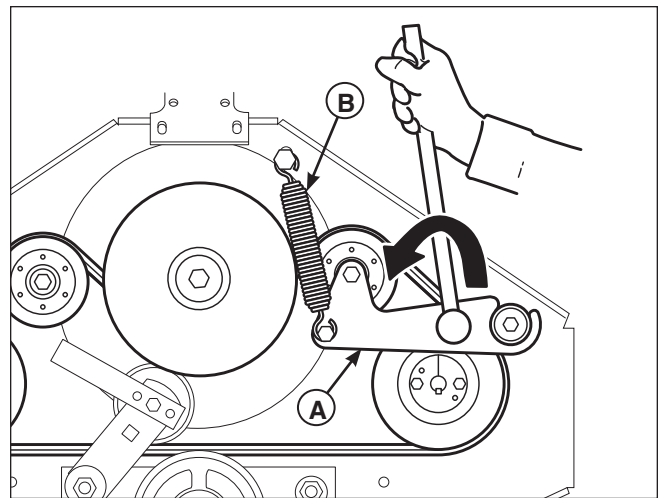

Figure 48. Pump Belt Removal & Replacement
5. Slide the drive belt over the edge of the stationary idler pulley (C) and carefully release the tension on the wrench until the spring tension is completely released.
8. **61" Side Discharge:** Rotate the spring-loaded idler pulley (A, Figure 45) COUNTER-CLOCKWISE and slide the drive belt over the edge of the stationary idler pulley (C). Make sure the V-side of the belt runs in the pulley grooves (Figure 48). Carefully release the tension on the wrench.
4. Remove the 5/16" bolt, washer and nut (C, Figure 48) that fasten the rubber pad to the clutch and unscrew the wire ends that connect the clutch to the electrical harness.
3. Using a 1/2" breaker bar, place the square end in the square hole located in the middle of the idler arm (A, Figures 48). Carefully rotate the breaker bar COUNTER-CLOCKWISE, which will relieve the tension on the belts exerted from the idler arm.
4. Carefully rotate the idler arm with the breaker bar COUNTER-CLOCKWISE (see Figure 48). While holding the breaker bar firmly, install the belts in the left-hand pump pulley grooves and the two stationary idler pulleys grooves.